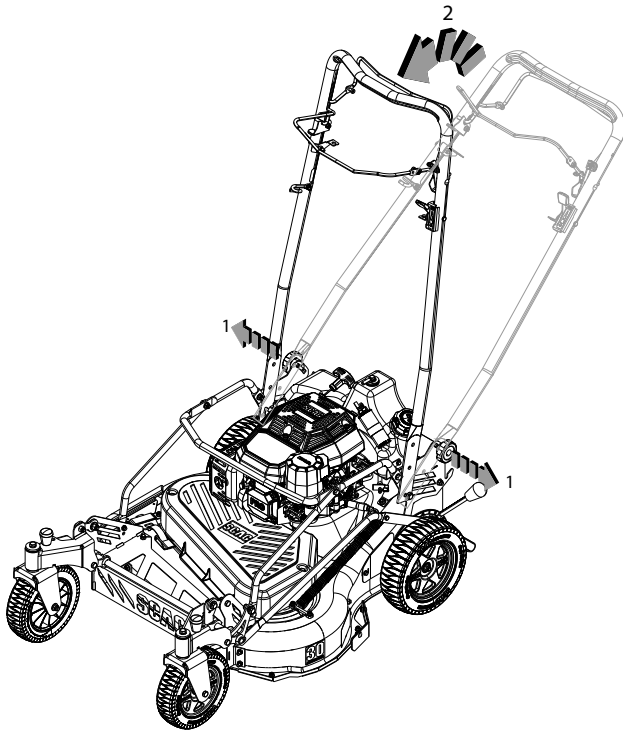

Figure 2-2. Handle Bar Storage Position
5. The handle bars can be moved upward to the storage position when required by removing the carriage bolts and knobs on both sides and rotating the handle bar upward. Secure in the storage position by installing the carriage bolts and knobs. See Figure 2-2.